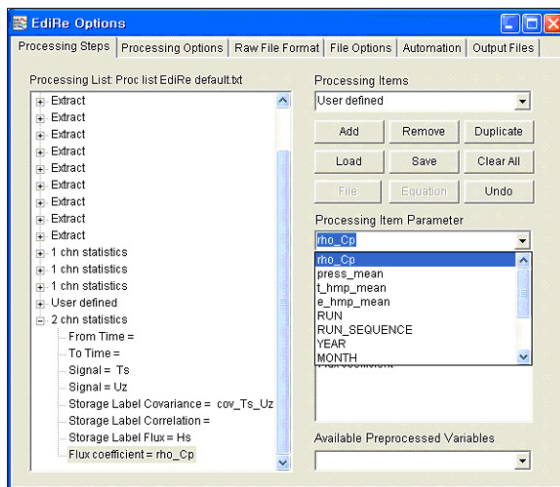

Figure 17: The computed sensible flux coefficient is plugged into the 2 chn statistics instruction.
24. Plug in the computed sensible heat flux coefficient to the “2 chn statistics” instruction to complete the flux computation, as shown in Figure 17.